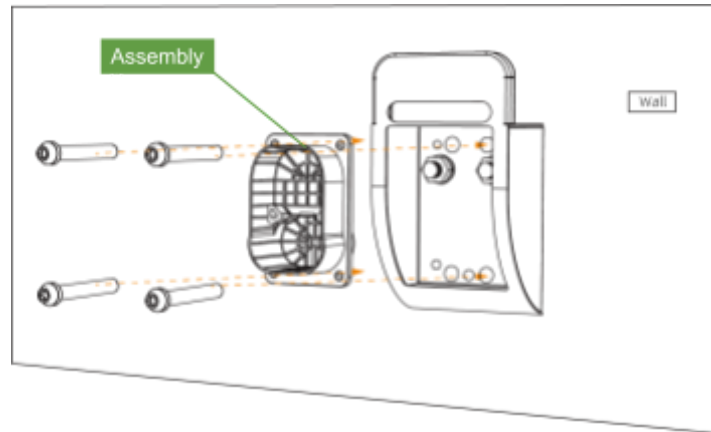
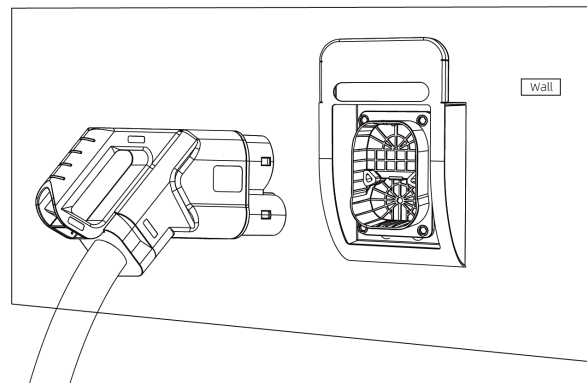

**FIG 25: SCHEMATIC DIAGRAM OF HOIST HOLE AT THE REAR OF CHARGING CONNECTOR PLACEMENT ASSEMBLY**
**FIG 26: MOUNTING DIAGRAM OF EXPANSION SCREW OF CHARGING CONNECTOR PLACEMENT ASSEMBLY**
**Step 14:** Attach the charging connector placement assembly1 to the expansion screw inserted into the wall hole in the previous step through the hardy hole at the back of the charging connector placement assembly1 (see FIG. 26), then insert the other two holes into the corresponding expansion screws, and tighten the three expansion screws completely, as shown in FIG. 25.